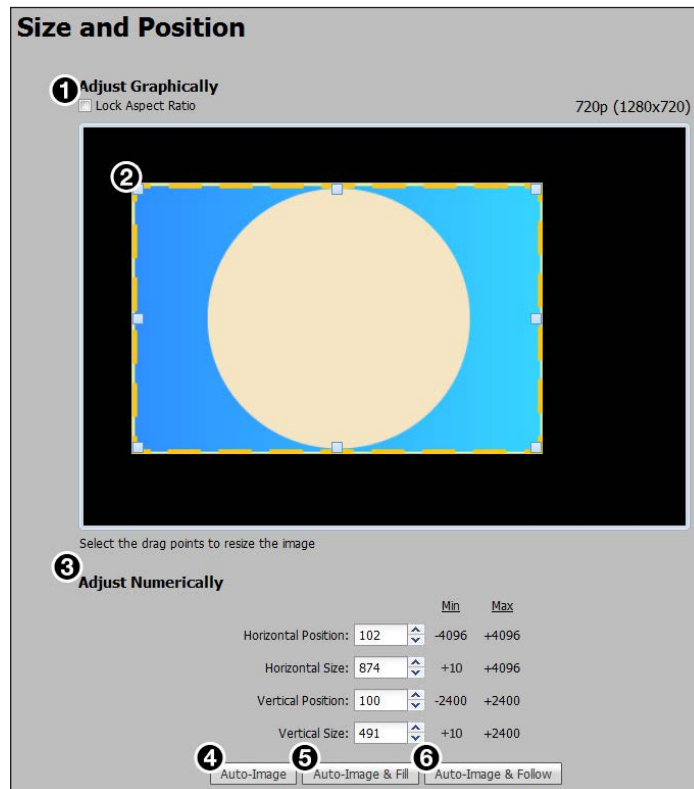

Figure 68. Size and Position Page
If desired, click the **Lock Aspect Ratio** checkbox (see figure 68, ①) to constrain proportions.
1. Click and drag the drag points of the sample image (②) to resize the image within the designated space (defined by the black area in figure 68).
2. Click anywhere inside the sample image (see the blue rectangle with a circle inside in figure 68) and drag it anywhere within the designated space to reposition the image.